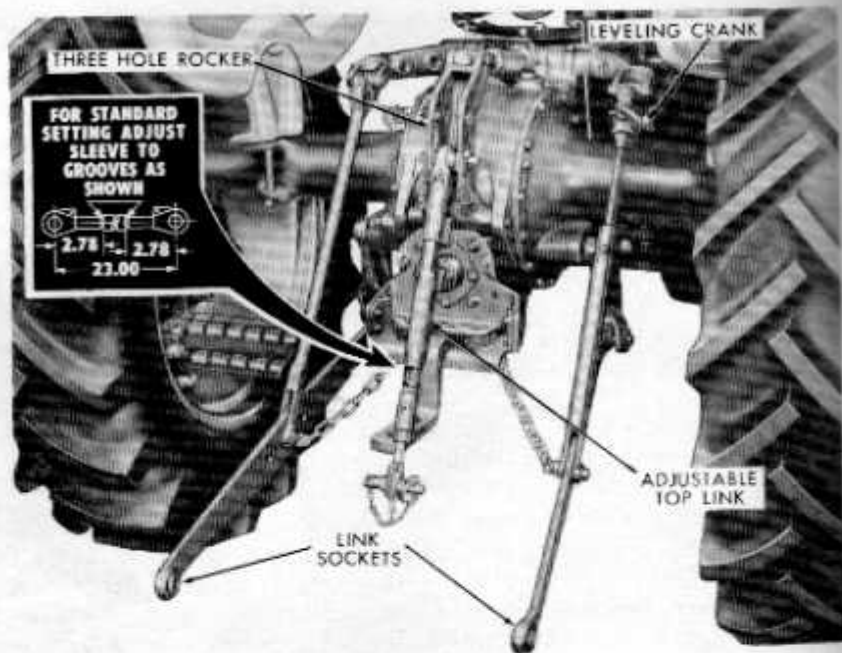

Figure 15
Most implements can be easily and quickly attached to the tractor three point linkage. With the selector lever in Implement Position Control, back the tractor so that the lift links are directly above the cross shaft of the implement. Lower the links with the Lift Control Lever, until the sockets are aligned with the ends of the shaft. Attach the left link to the shaft and secure with the linch pin provided, then adjust the right link with the leveling crank (see Figure 15) and attach it in the same manner. Attach the adjustable top link to the implement and secure it with the linch pin.
**Adjustable Top Link:** The fully adjustable top link provides improved implement performance and operation. The link may be adjusted to suit implement operation requirements by releasing the lock and rotating the sleeve until the desired length is obtained. The standard length of 23 inches is obtained by adjusting the link as shown on a decal located on the sleeve. (See insert, Figure 15.)